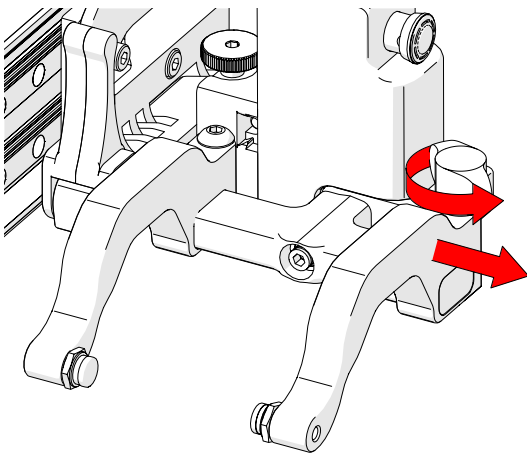

Fig. 111 - Remove outer arm
3. Loosen the probe holder adjustment knob and remove the outer probe holder arm (Fig. 111).
5. Place the wedge on the pivot button of the inner probe holder arm (Fig. 111).